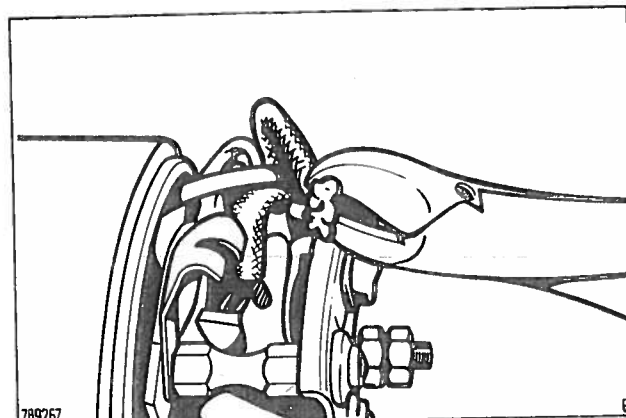
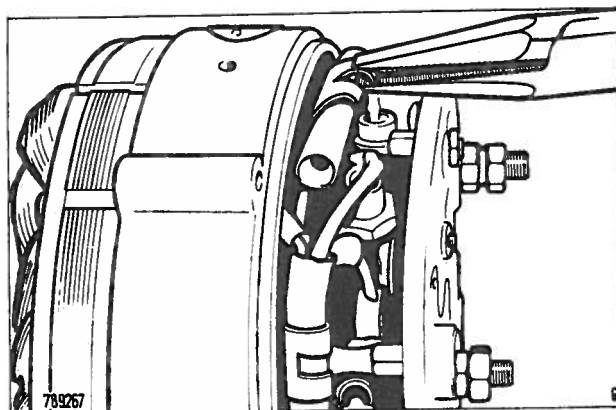

Fig. 53 Cutting cables
Fig. 52 Bending open lead clamps
6. Carefully bend open the clamps securing the positive and negative diode leads Fig. 52. Pull off the insulating sleeve and cut the cables as close as possible to the soldering joint Fig. 53.